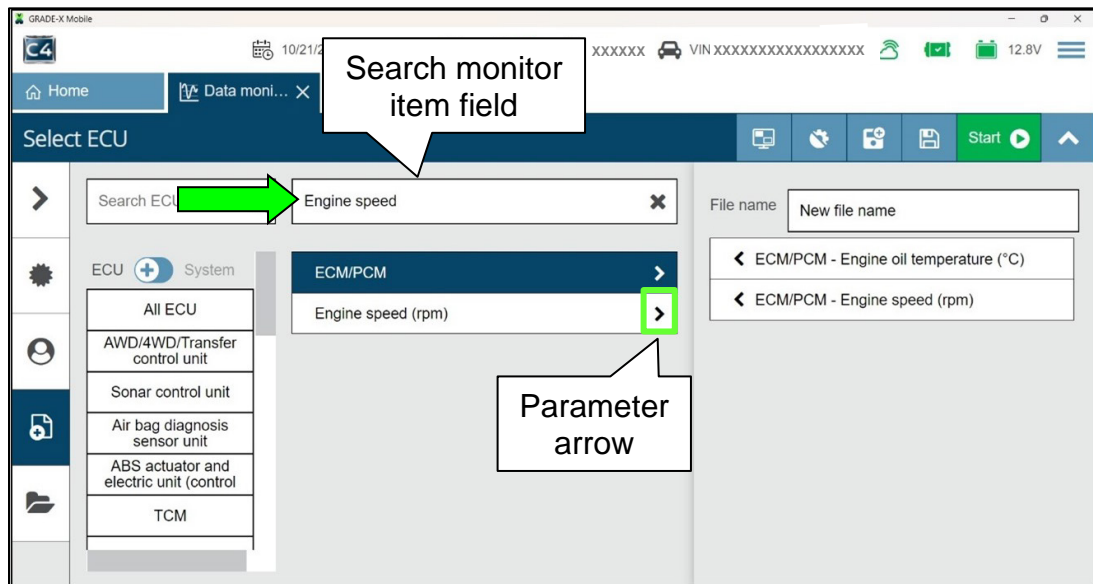

Figure 39
42. Enter the following parameters as shown in Figure 39.